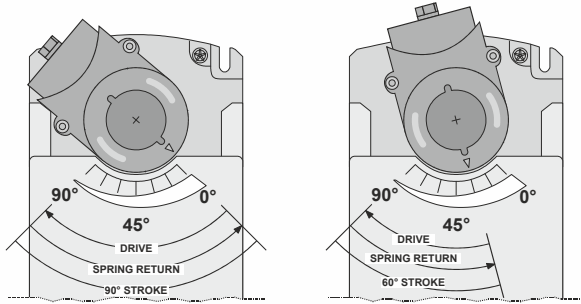

Fig. 5. Stroke reduction
3. Rotate the coupling to the desired fail-safe position, aligning it based on the stroke labeling. See Fig. 5.
**EXAMPLE:** Setting the shaft coupling to an approx. fail-safe position of  $35^\circ$  (as indicated on the housing) limits the stroke to  $60^\circ$  (see Fig. 5).